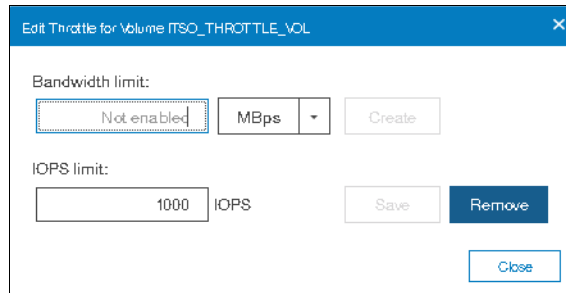

Figure 6-69 Remove throttle
2. A window will come up where you can remove the throttle that was defined. In our example, we remove the throttle on IOPS by clicking on **Remove** as shown in Figure 6-69.